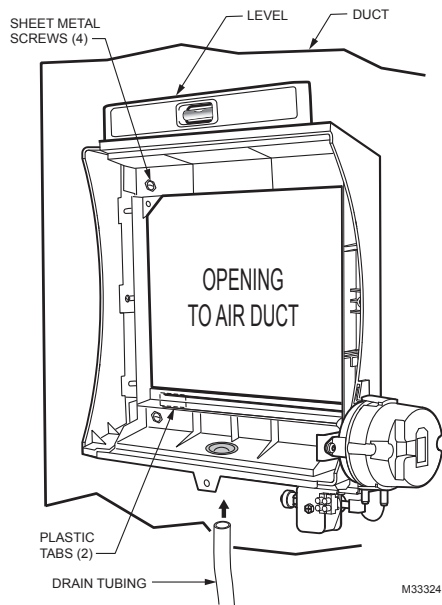

Fig. 5. Installing humidifier on duct.
- 7. Make sure the humidifier housing is level, then position it in the opening so the plastic tabs are in place on the *lower sheet metal edge* of the opening. Use pliers, as necessary, to flatten cut edges. See Fig. 5.